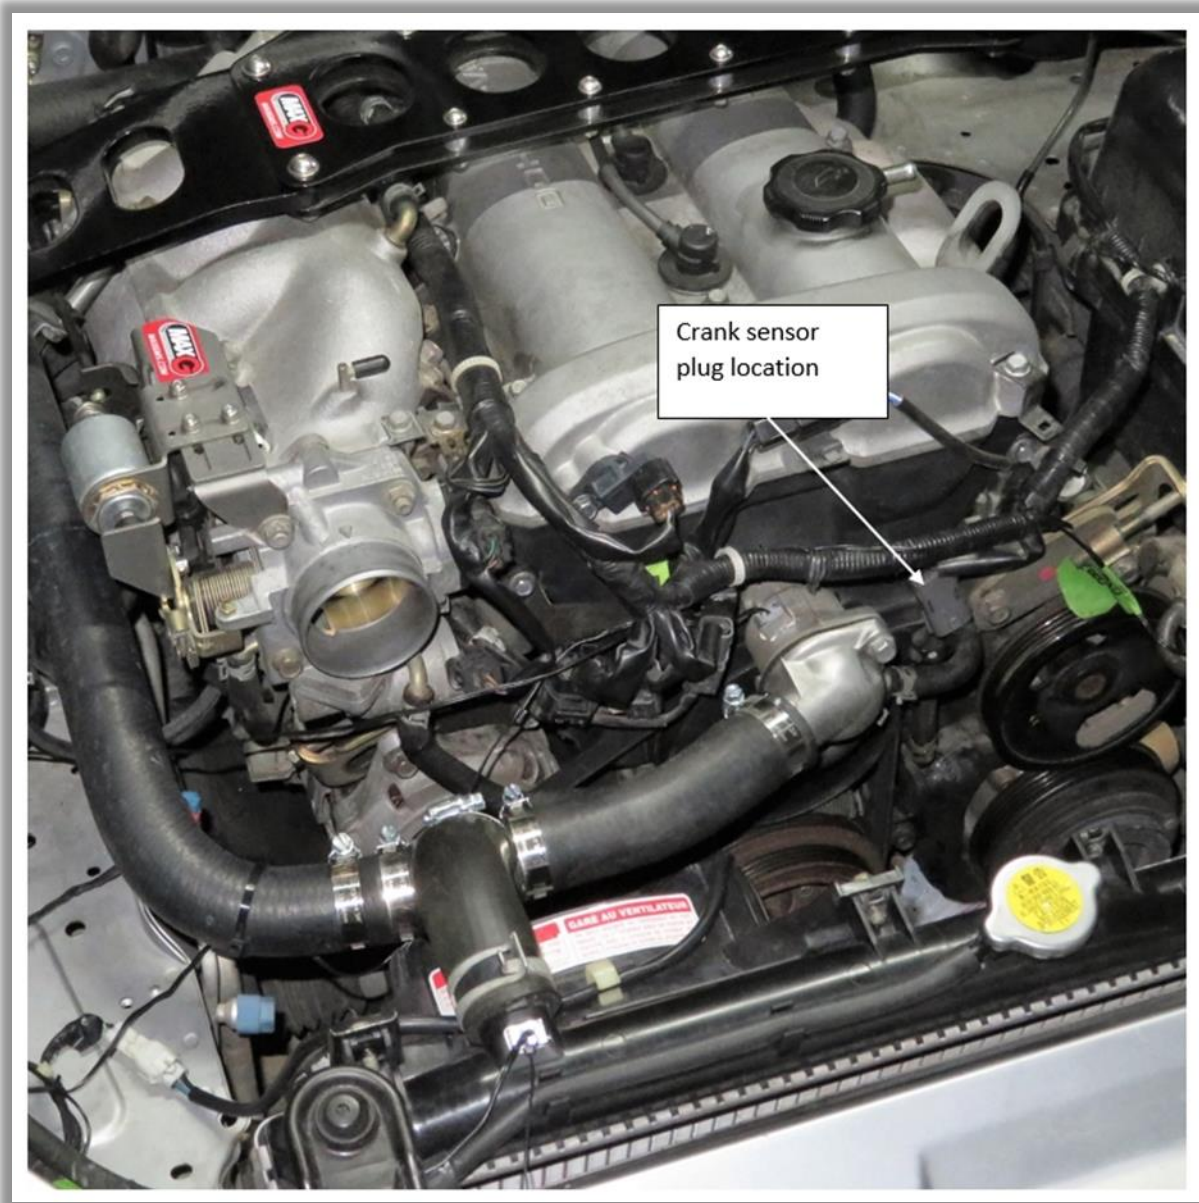

Figure 1
1. Remove the stock sensor by unplugging it from the wiring harness – see figure 1